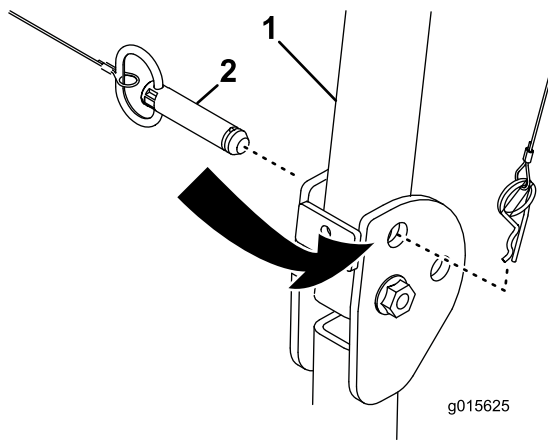

Figure 11
1. Remove the hairpin cotter and pin securing the right side of the ROPS to the pivot bracket (Figure 11).